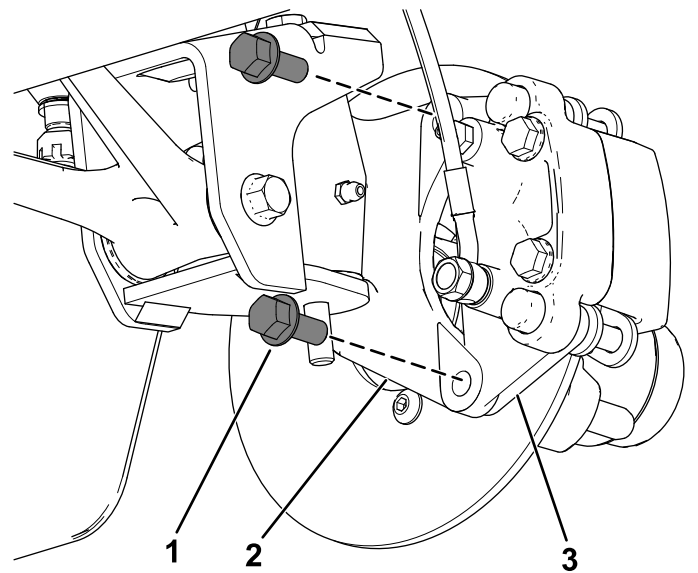

**Figure 37**
2. Remove the 4 lug nuts that secure the wheel to the hub (Figure 37).
4. Align the holes in the wheel to the studs of the hub and assemble the wheel to the hub with the valve stem outward (Figure 37).
5. Secure the wheel to the hub using the lug nuts (Figure 37).